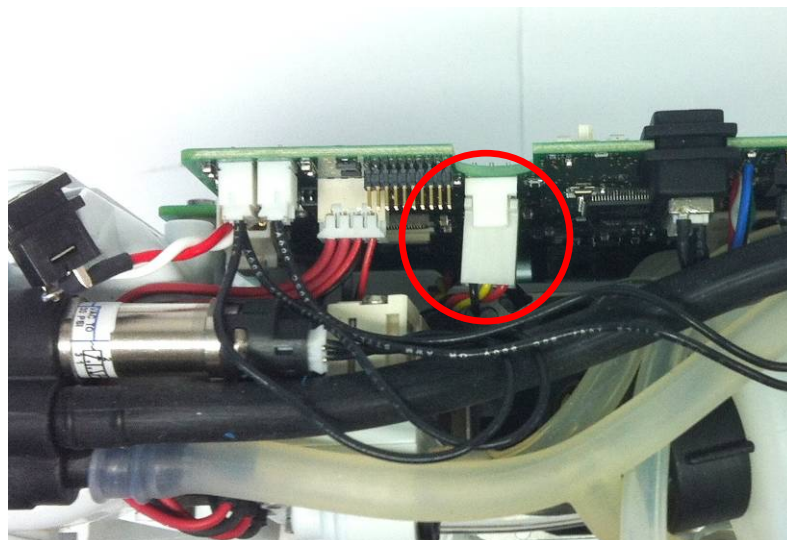

Figure 9: Location of fan connector on motherboard
1. Unplug the fan cable from the motherboard. *Use pliers if necessary* (Figure 9).